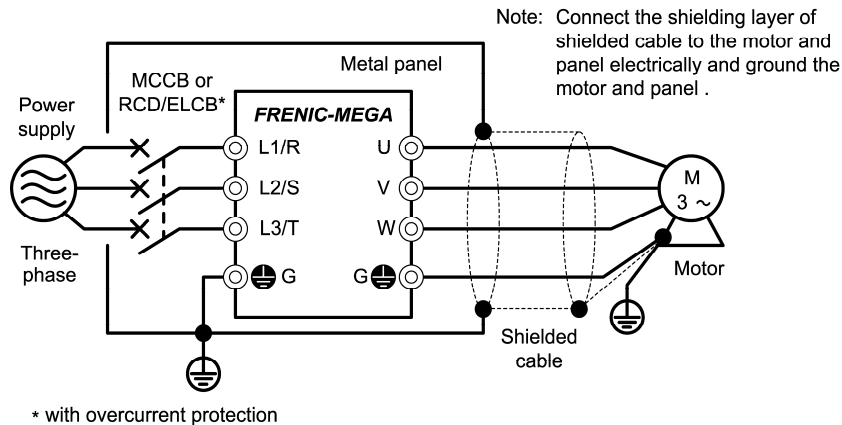

Figure 13.3-2 Installing inside Panel
- 3) If the radiation noise exceeds the standards, install the inverter and peripheral equipment into a metal panel as shown in Figure 13.3-2.